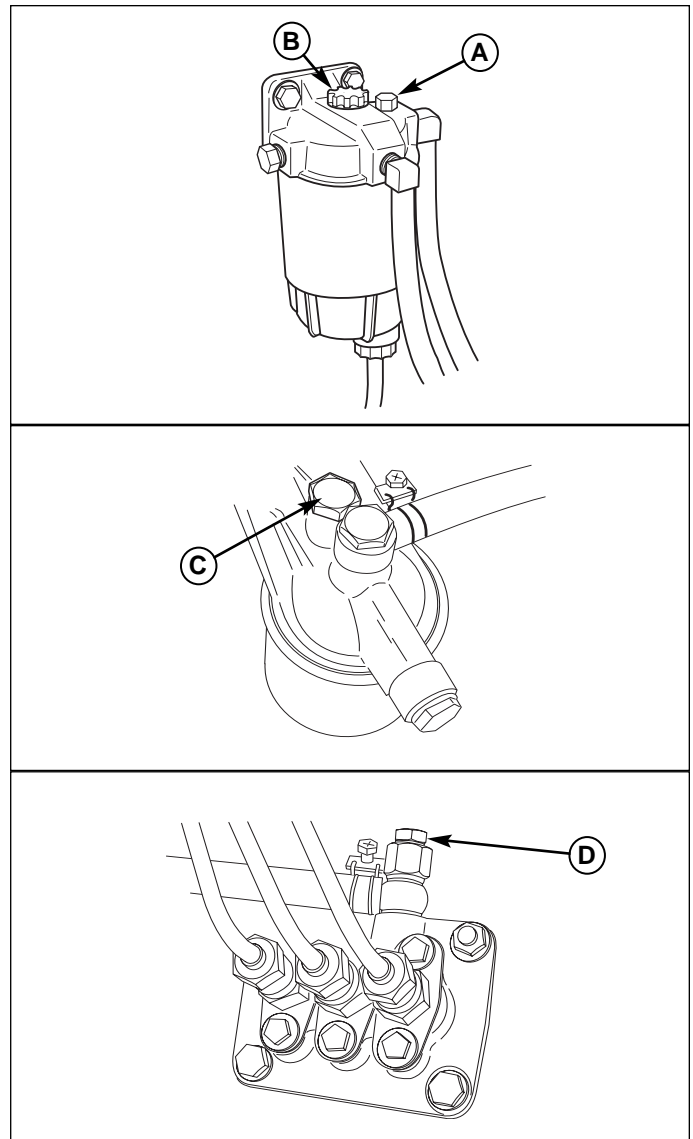

Figure 5. Fuel System Priming
2. Unscrew the priming hand pump (B, Figure 5) located on top of the water separator. Operate the hand pump up and down until fuel that is free of air flows from the vent.